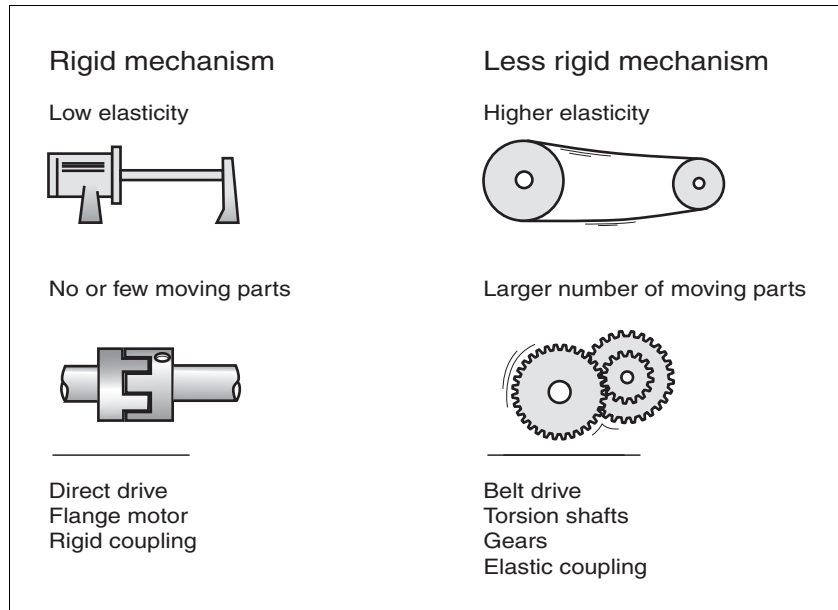

Figure 7.12 Mechanical systems with rigid and less rigid mechanisms
- ▶ Select the setting for the `AT_mechanics` parameter corresponding to your mechanical system. If in doubt, select a softer coupling (less rigid mechanism, see Figure 7.12).